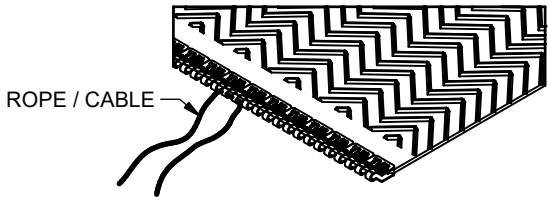
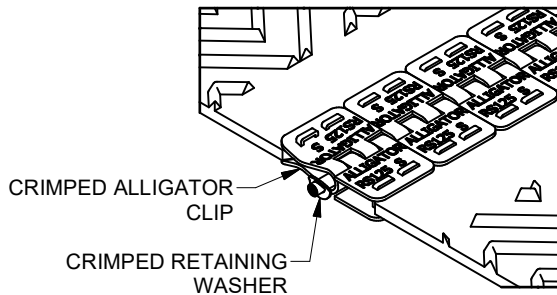

FIGURE 8
FIGURE 9
8. Attach a cable or rope to one end of the conveyor Belt PN# 7038, see Figure 8. Insert the belt in the intake with the smooth side down. Pull it into the tube structure with the cable or rope until it comes out from the discharge. Thread the cable or rope over, around and under the discharge roller and back through the bottom of the tube structure. Pull the belt back through the tube structure to the intake. Pull the belt around the intake roller and join belt ends to each other using the belt connectors. Ensure the retaining washer is crimped onto the lacing pin and the 4 edge alligator clips are crimped to retain lacing pin. To crimp the alligator clip set the gap in a pair of vice grip jaws to 1/4" and squeeze the clip until the vice grips lock. See Figure 9.